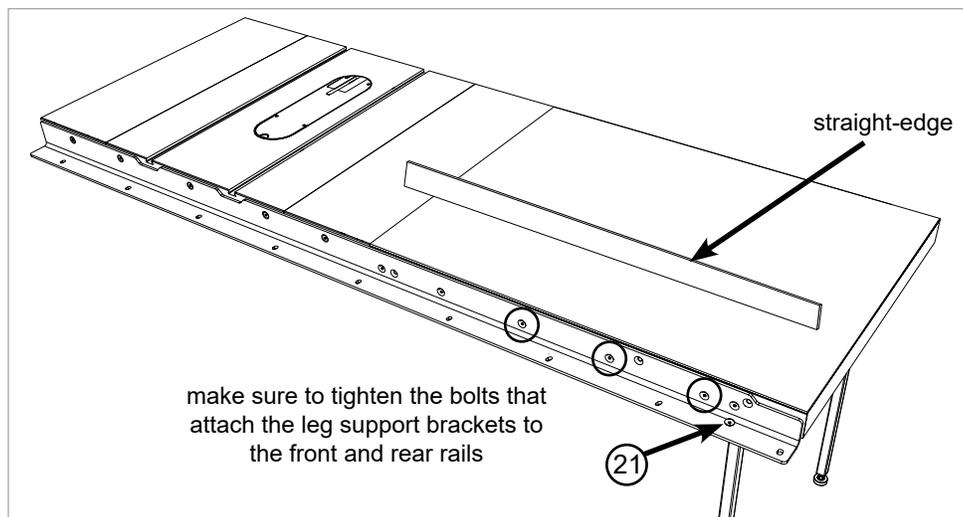

Fig. 10
14. Install a M8 x 40 countersunk socket head bolt through the one remaining front rail hole and into the corresponding hole in the front edge of the extension table for a 36" fence system, or install M8 x 40 countersunk socket head bolts through the three remaining front rail holes and into the corresponding holes in the front edge of the extension table for a 52" fence system (see the circles in Fig. 10). Install an M8 x 40 countersunk socket head bolt through the rear rail and into the corresponding hole in the rear edge of the extension table for a 36" fence system, or use three M8 x40 countersunk socket head bolts for a 52" fence system. Place an M8 washer and an M8 lock nut on each bolt and hand tighten.
Use a straight-edge to level the front edge of the extension table to the saw table (see Fig. 10). You may have to pull up or push down on the extension table to level it. Once the front edge of the extension table is level, use a 5 mm hex key and a 13 mm wrench to fully tighten the nuts on the bolts along the front rail. Repeat the process to level the rear edge of the extension table. Also fully tighten the bolts that attach the leg support brackets to the front and rear rails (bolts 21).